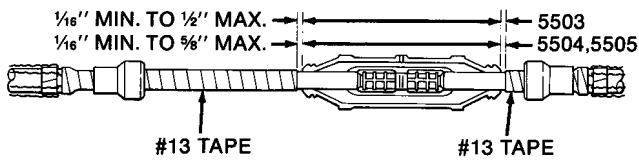

Figure 4
10. Center splice body over connector as shown in Figure 4.
11. Inspect to insure that #13 Semi-Conductive Tape does not extend inside the splice body. See Figure 4. for tolerance.